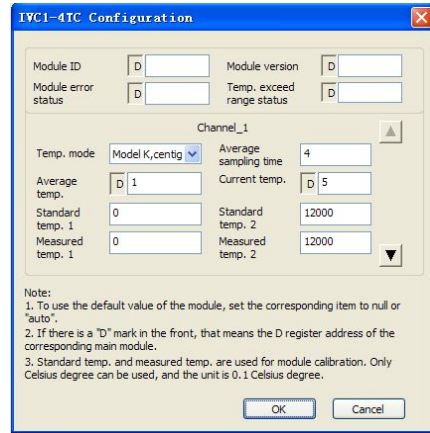
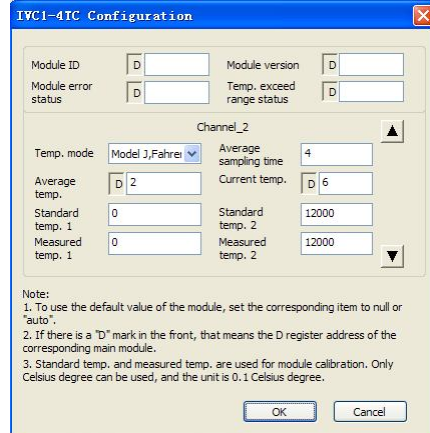

Figure 4-1 CH1 setting interface
Figure 4-2 CH2 setting interface
IVC1-4TC exchanges data with the basic module through Buffer Memory (BFM). After IVC1-4TC is set through the host software, the basic module will write data into IVC1-4TC BFM to set the state of IVC1-4TC, and display the data from IVC1-4TC on the host software interface. See figures 4-1 ~ 4-8.
- BFM#4094: software version information, displayed automatically as **Module Version** in **IVC1-4TC Configuration** dialogue box of the host software, as shown in Figure 4-1.
The setting interface of output CH1 is shown in Figure 4-1. After the setting, click the downward arrow button → to continue to set CH2 ~ CH4, whose setting interfaces are shown in figures 4-2 ~ 4-4. For detailed software usage, see *IVC Series PLC Programming Manual*.